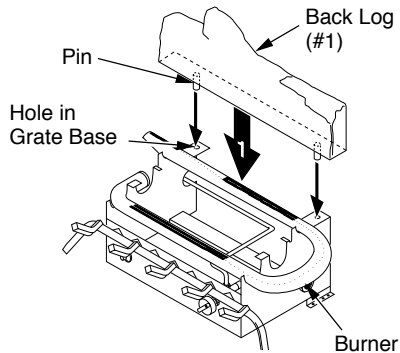

Figure 20 - Installing Back Log (#1)
1. Locate pins on the bottom of back log (#1). Slide these pins into the holes in the grate base behind the burner (see Figure 20).